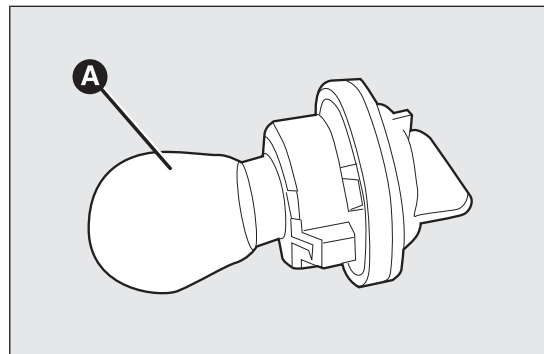

fig. 137
- ☐ remove the bulb A fig. 137 and replace it;